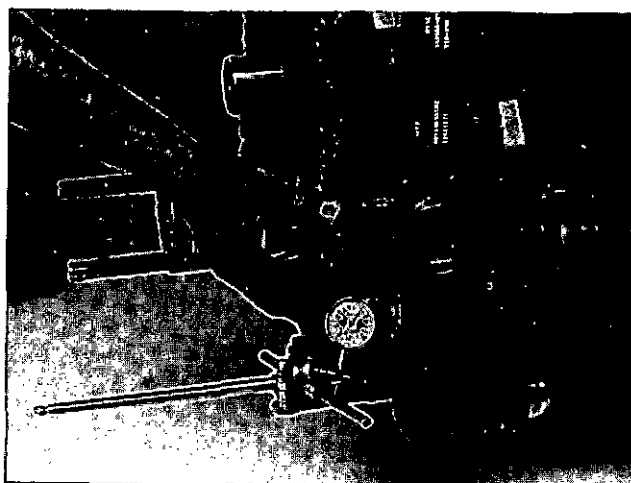

Fig. 14-37 (N114264). Check The Backlash Of The Pump Gear.
4. Check the backlash of the pump gear, Fig. 14-37. Use the same procedure that you used to check the backlash of the accessory drive gear.